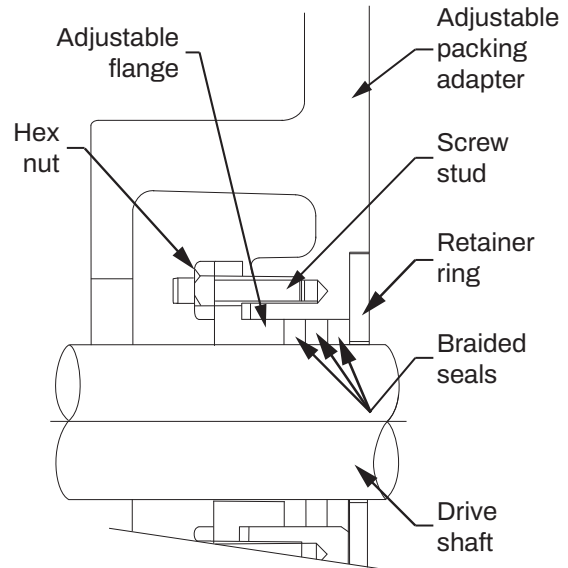

Figure 2 - Optional Adjustable Packing Adapter
4. Install 2 screws in studs in the adapter. Use Loctite on threads. See Fig. 2.